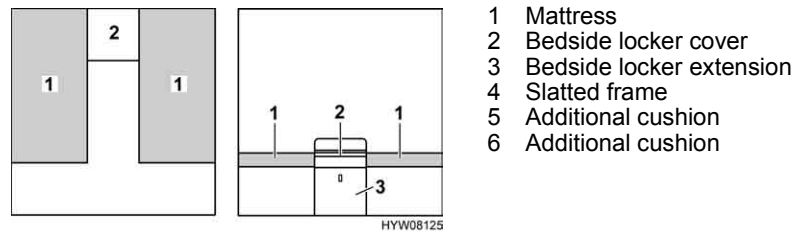

Fig. 67 Prior to conversion
- Remove the bedside locker cover (Fig. 67,2) and put it to one side.